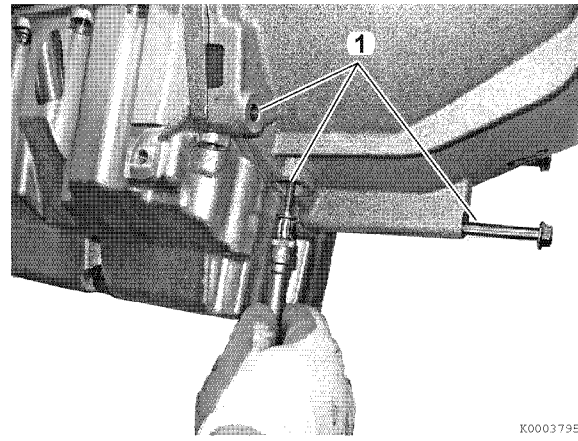

Figure 8-15
3. Remove bolts (1, **Figure 8-15**) that secure oil sump to the flywheel housing.